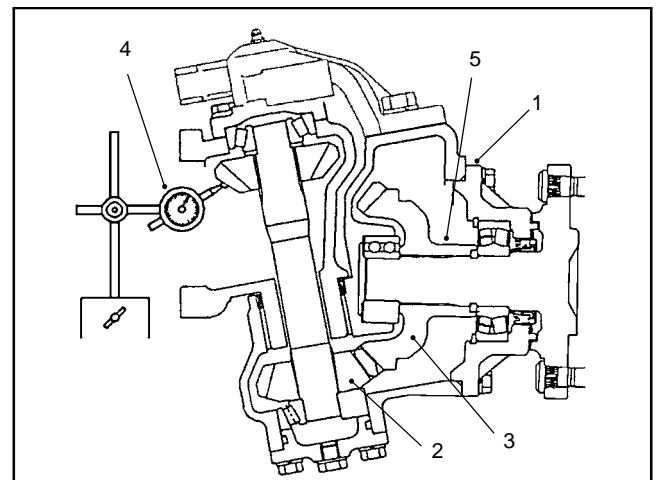

Figure 26
9. Remove the bevel gear case/axle case assembly from the axle support. Coat a new O-ring with grease and temporarily install the axle cover assembly. Position a dial indicator at the tooth's center. Prevent the axle from turning and measure the lower bevel gear to axle gear backlash (Fig. 26).